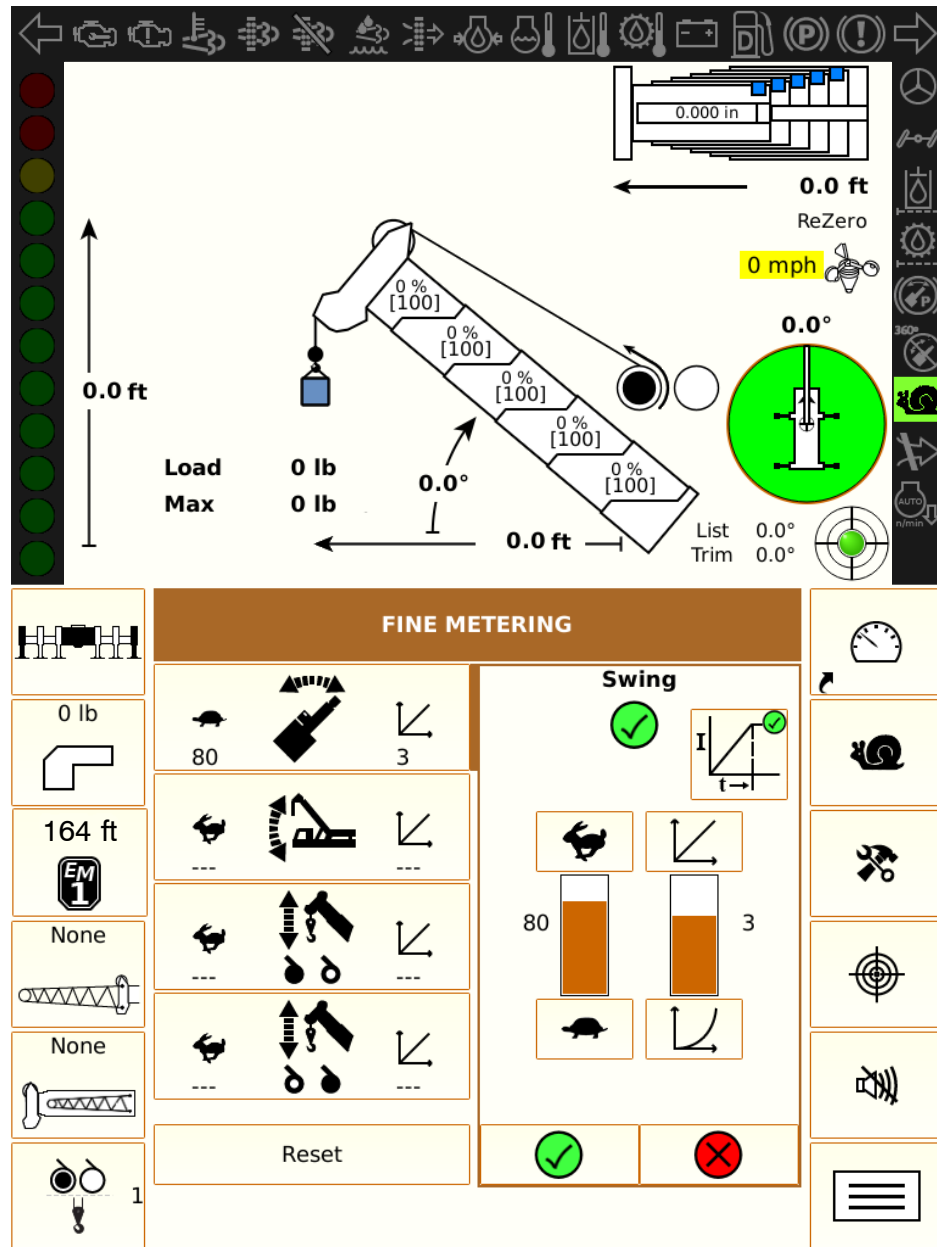

Figure 1–158
5. Press the Greater Function Response Button  or Lesser Function Response Button  to adjust the function response for the selected function. Refer to Figure 1–158.
7. Press the Accelerated Function Response Button  to achieve a greater function response, where available. The activation icon  will appear on the Accelerated Function Response Button  when it is activated. Refer to Figure 1–156.